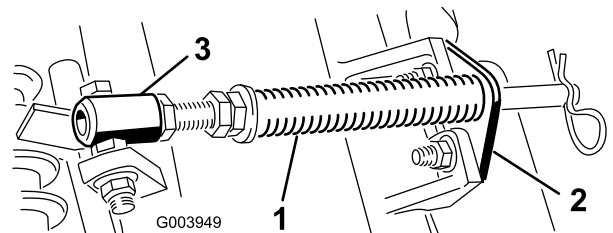

Figure 10
- A. Remove the 2 carriage bolts and nuts securing the rod bracket to the cutting-unit tabs (Figure 10).
- B. Remove the flange nut securing the spring-tube bolt to the carrier-frame tab (Figure 10)